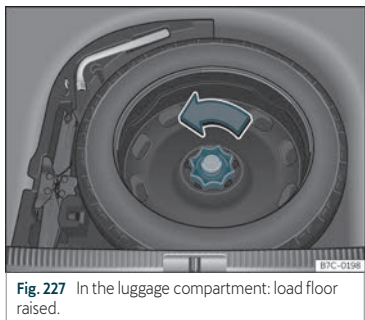

Fig. 227 In the luggage compartment: load floor raised.
- Turn the thumb wheel anti-clockwise »» **Fig. 227**.